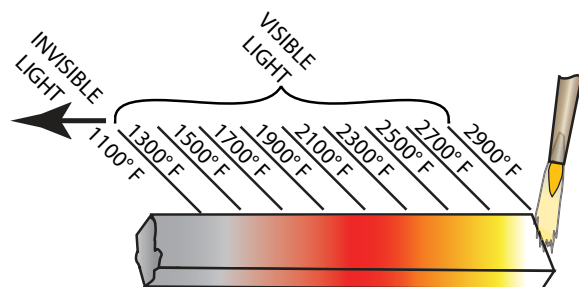

FIGURE 27-4 Visible and invisible light. © Cengage Learning 2012
As matter becomes warmer, its atoms vibrate at a higher frequency. As matter cools, the vibrating frequency slows. This vibration of the atoms is what gives off the infrared light that comes from all objects that are above absolute zero. When the object becomes hot enough, the vibrating frequency of the atoms gives off visible light. We see that light as a dull red glow when the surface reaches a little above 1000°F (540°C). As the surface becomes even hotter, we can see the color light it gives off change until it glows “white hot,” Figure 27-4.
4. Compare the colors you saw with the colors shown in Figure 27-4.